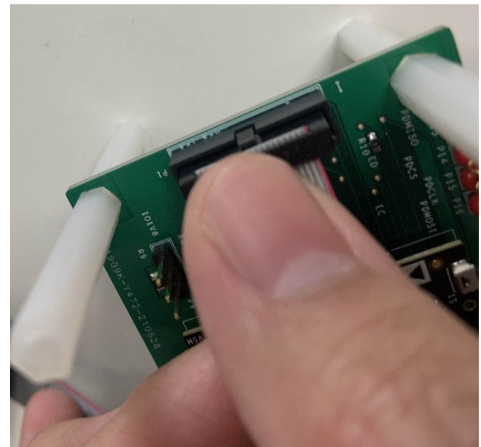
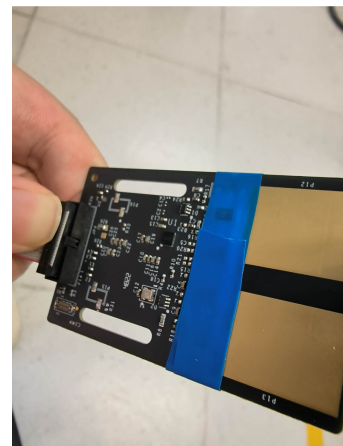

Figure 4. EVAL-VSMUCZ Connection
Figure 5. EVAL-ADPD7000Z Connection
2. Connect the EVAL-VSMUCZ board to the EVAL-ADPD7000Z (see Figure 4 and Figure 5). Ensure that the EVAL-VSMUCZ and EVAL-ADPD7000Z have the same pin order, and that the pin numbers match.
The blue tape shown in Figure 5 is used for electrical isolation between the board and the skin.